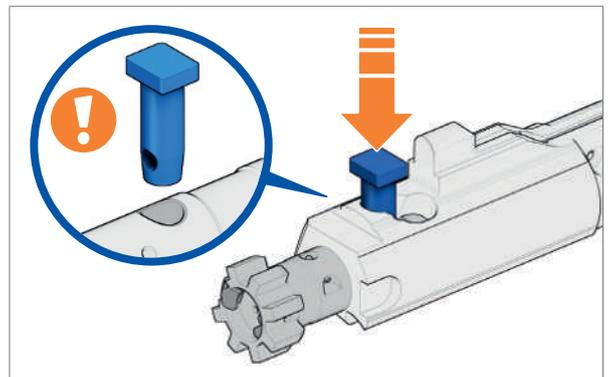

Fig. 119: Insert control bolt
2. Insert control bolt into bolt head carrier with the bore in the longitudinal direction (*Fig. 119*).